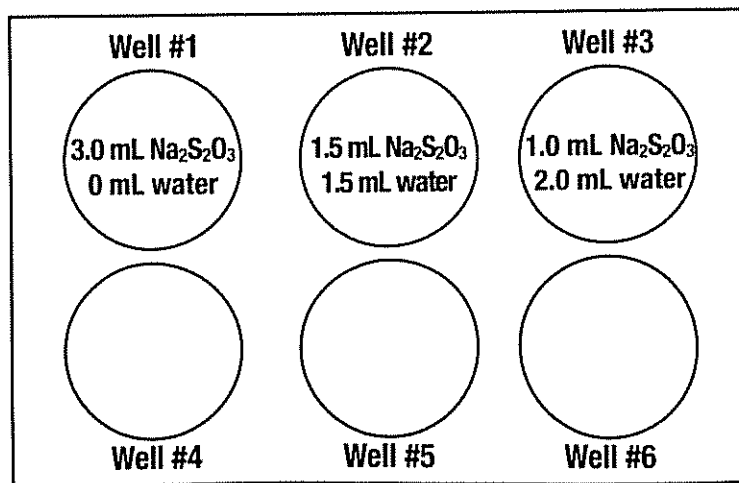

Figure 1.
7. Empty the syringe into well #3 of the six-well reaction plate. See Figure 1 below.
8. Repeat steps 5–7 to fill wells #1 and #2. Use the amounts of water and $\text{Na}_2\text{S}_2\text{O}_3$ solution shown below in Figure 1. Fill the wells in reverse order (well #2 next, then well #1). Filling the syringe with the most dilute mixture first and working up to the most concentrated means that the syringe does not need to be rinsed between fillings.